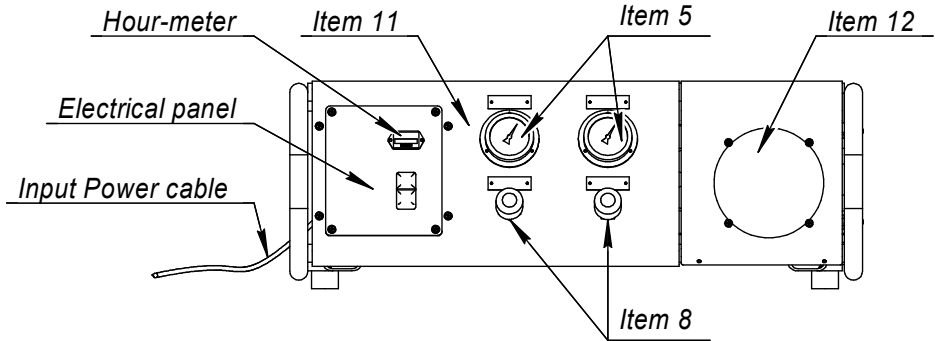

Figure 2. Front view
3.3.4. Make sure gauges item 5 (PG-1) and (PG-2) (Figure 2) show zero pressure.
3.3.5. Make sure valves item 8 (V-1) and (V-2) (Figure 2) are closed.